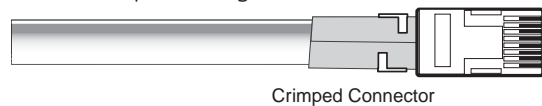

Figure 9. Crimped RJ-45 Connector
5. Feed each individual wire into the appropriate slot of the RJ-45 connector and crimp the cable in the normal manner, folding the tangs at the end of the connector over the shielded tape (see figure 9).